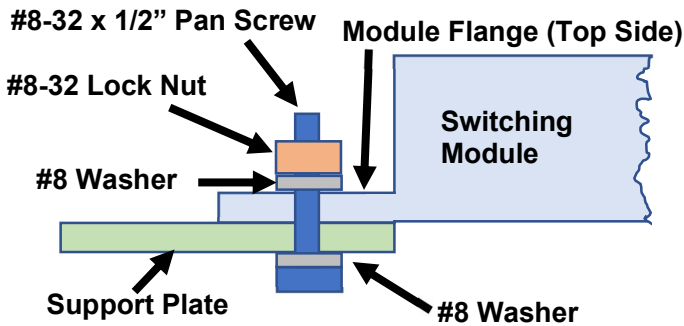
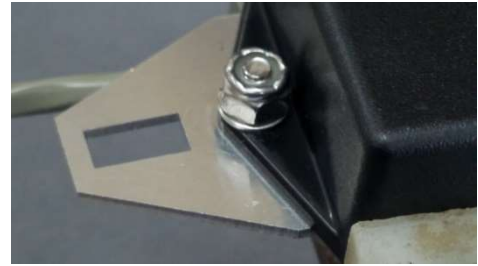

FIGURE 55
FIGURE 56
□ **STEP 7.3** Review **FIG. 55** method of attaching module support plate to the 10 total switching modules. Each module requires two (2) module support plates (one at each end). The final result will be as shown in **FIGs 56 and 59**.
Module support plate attached to module, using method of **FIG. 55**. Note NUT is on top side of flange.
□ **STEP 7.4** With module upside down on flat surface, loosely attached hardware per **FIG. 55** at each end of module (**FIG. 57**). The #8-32 x 1/2" screw with a #8 washer is inserted through hole of the support plate and then through the module bottom side flange. The screw is then terminated with a #8 washer and #8 lock nut (top side), as shown in **FIGs 55, 56, and 59**.
Module support plate attached to module, using method of **FIG. 55**.